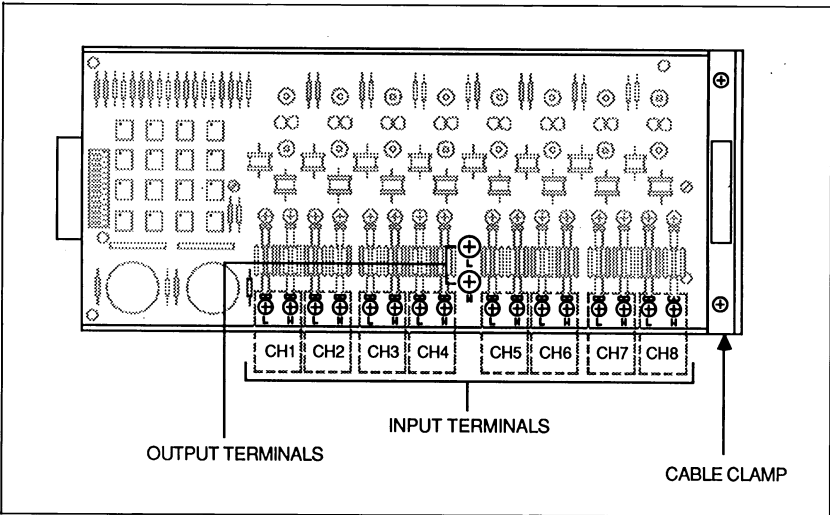

Figure 2-2. Input and Output Connection
The input and output connecting screw terminals are shown in Figure 2-2. Each of the eight input channels has a LO (L) and HI (H) terminal, while the single output also has similarly marked HIGH and LOW terminals.